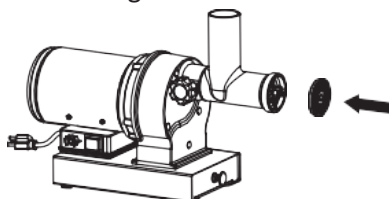

Fig. 4
- Place your desired grinding plate next to the cutting blade. The notch in the plate should align with the protrusion on the grinder head. (See Fig 4)